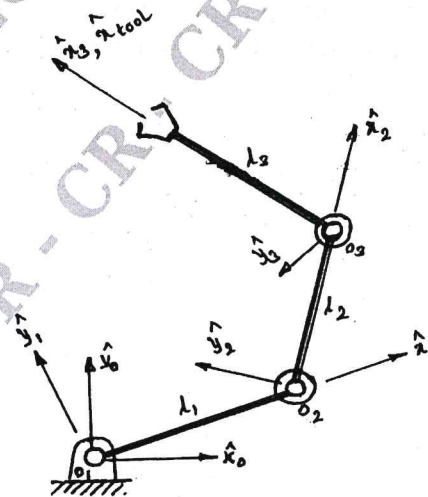

Fig Q3(a)
- 3 a. Figure Q3(a) shows the 3R manipulator, with basic rotations using iterative formulas obtain the linear and angular velocities of each links.